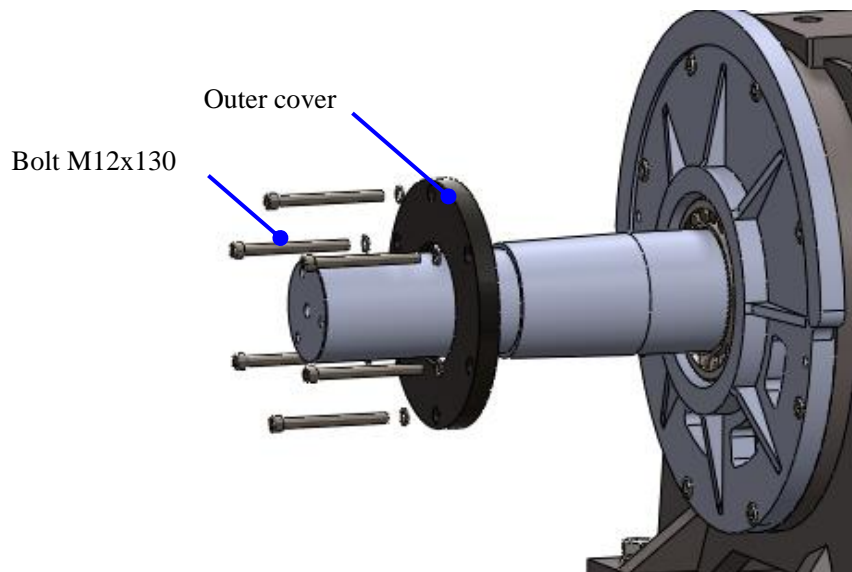

Figure 123: Remove outer cover
3. Remove the bolts M12x130 (6 pieces) with lock washer¹² with hex wrench (10mm), and take off the outer cover. See Figure 123.